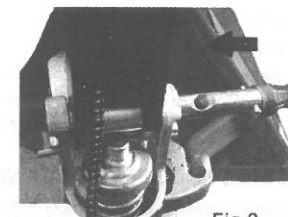

Fig.2
2.1 Insert the draw-bar onto the pump piston (A346), then use a hammer to insert the axle with hole (A105) into the hydraulic pump and draw-bar from the right to left. (See fig. 2).